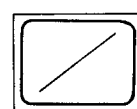

Fig. 6
- Playback the 8kHz signal from the test tape (QZZCFM). Adjust screw (B) shown in fig. 3 so that pointers of the two VTVMs swing to maximum and a lissajous waveform as illustrated in fig. 6 is obtained on the oscilloscope.